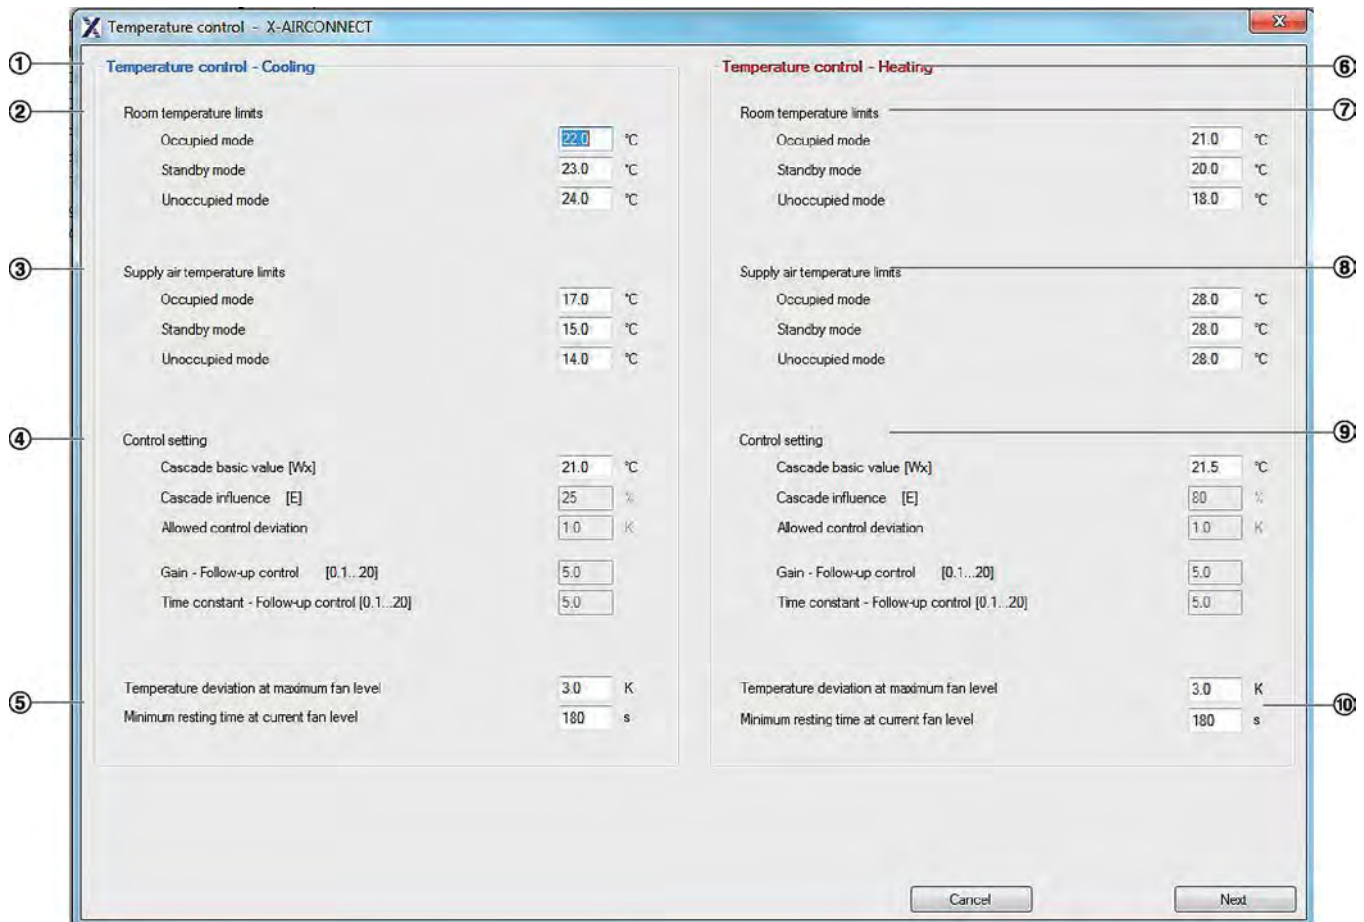

Fig. 19: Temperature control
On the '*Temperature control*' page you can set the control parameters for cooling (Fig. 19/1) and heating (Fig. 19/6).
#### Room temperature limits (Fig. 19/2)
#### Supply air temperature limits Fig. 19/3)
#### Control parameters (Fig. 19/4)
**Fan stage (Fig. 19/5)**
**Room temperature limits (Fig. 19/7)**
**Supply air temperature limits (Fig. 19/8)**
**Control parameters (Fig. 19/9)**
**Fan stage (Fig. 19/10)**